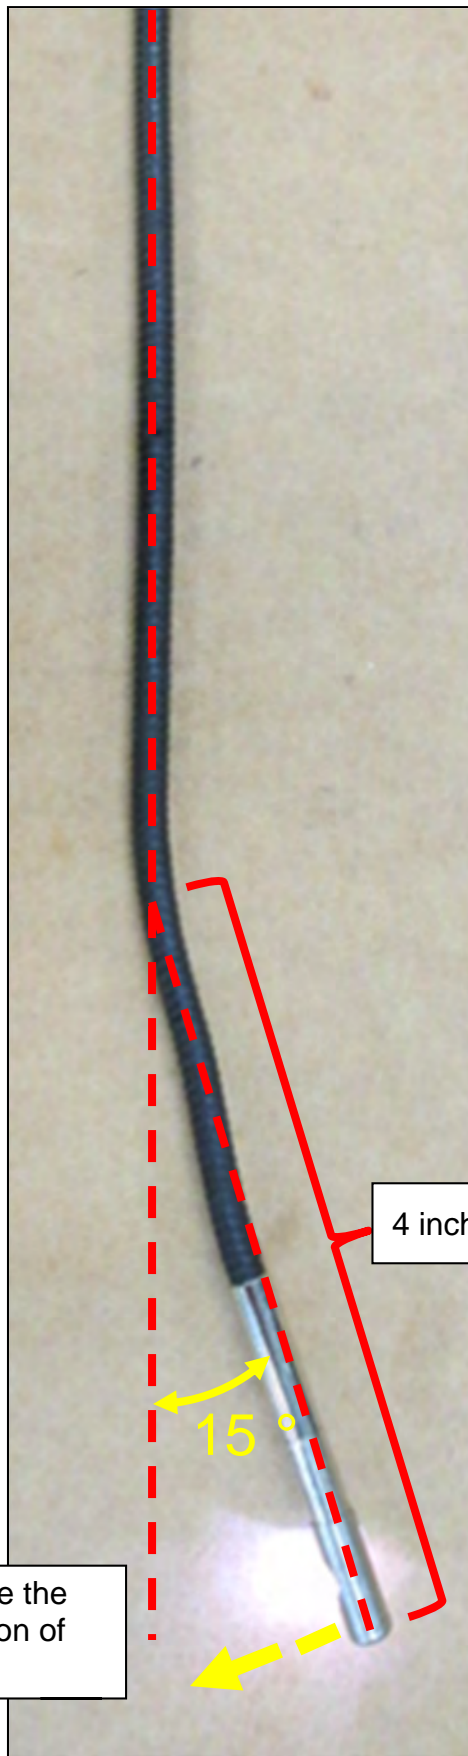

Figure 35
d. Using the mark applied to the driver side (LH) front wheel for reference, slowly and carefully rotate the driver side (LH) front wheel one full turn in either direction to view all of the belt.
- Holding the borescope (camera flexible tube) with one hand allows rotation of the wheel with the other hand (Figure 35).
- f. Using the mark applied to the driver side (LH) front wheel for reference, slowly and carefully rotate the driver side (LH) front wheel one full turn in either direction to view all of the belt.
- i. Holding the borescope (camera flexible tube) with one hand allows rotation of the wheel with the other hand (Figure 35).
**HINT:** If the belt does not move when rotating the driver side (LH) front wheel, supply additional air with hand pump (J-45664) to re-engage the clutch as necessary.